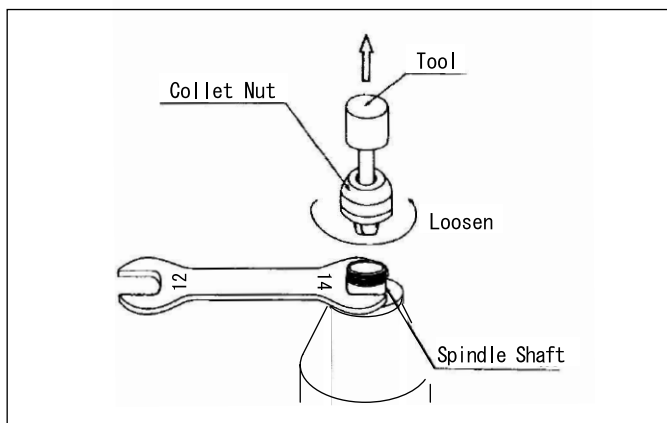

Fig 15
- 1) Follow the Changing Tools procedure described above; keep turning the collet nut with the tool mounted until the collet chuck comes out of the motor (4). (Fig 15)